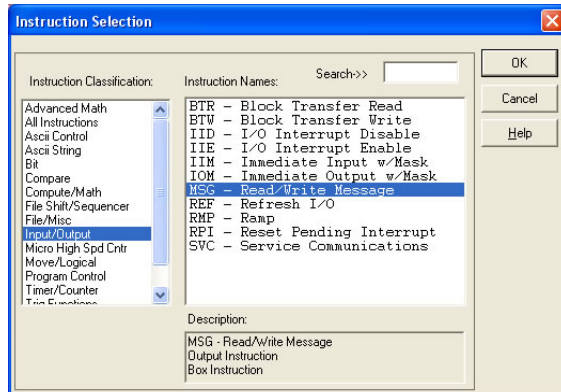

Figure 69: MSG Instruction Selection
- d) Select the "MSG" instruction from the "Input/Output" classification, then click OK. Refer to Figure 69.